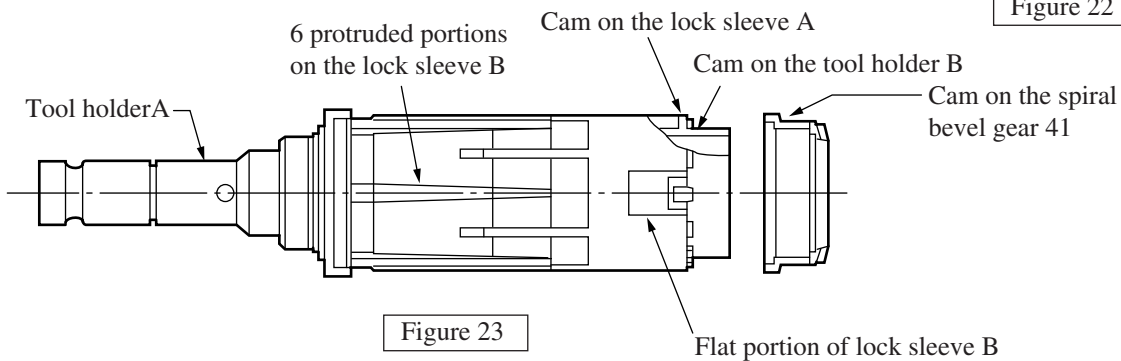

Figure 23
- Assemble Tool holder B and Spiral bevel gear 41, matching the cams of both parts.(See the figure 23.)
- Match the cam on Lock sleeve A to the cam on Tool holder B. (see the figure 23)
- Match the flat portion of Lock sleeve A to the mounting side of Change lever. fit the 6 protruded portions on Lock sleeve B to the 6 grooves on Crank housing, and then insert the tool holder into Crank housing. (see the figure 23.)